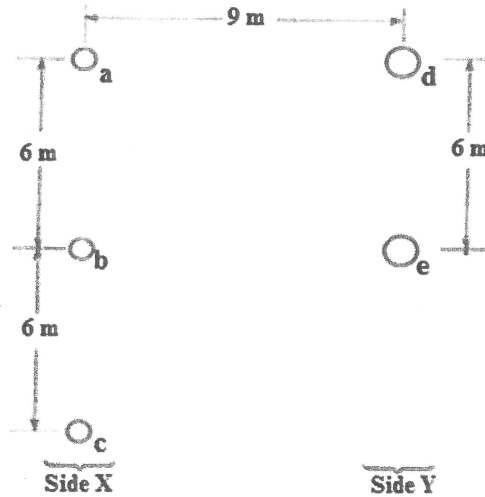

Figure Q5a: Composite conductors single phase transmission scheme
- (a) A circuit of a single-phase transmission line is composed of three solid 0.25 cm radius wires. The return circuit is composed of two 0.5 cm radius wires. The arrangement of conductors is shown in the Figure Q5a.